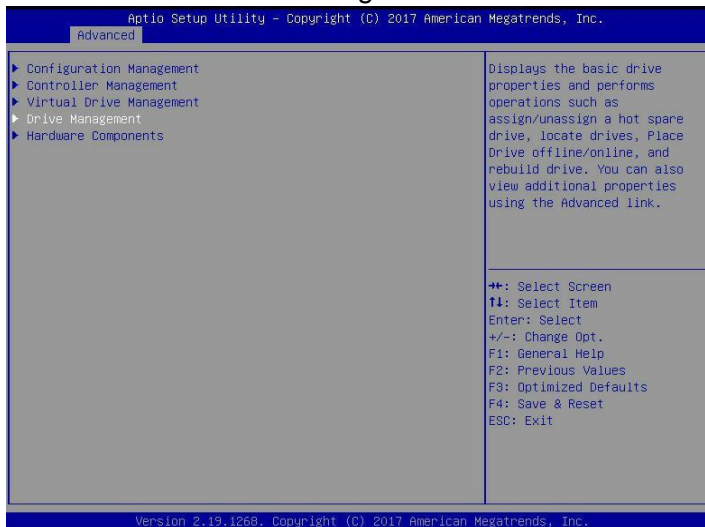

Figure 6-55
a) As shown in Figure 6-55, select Drive Management on the RAID card configuration interface and press Enter.
❖ Figure 6-55 Select Drive Management